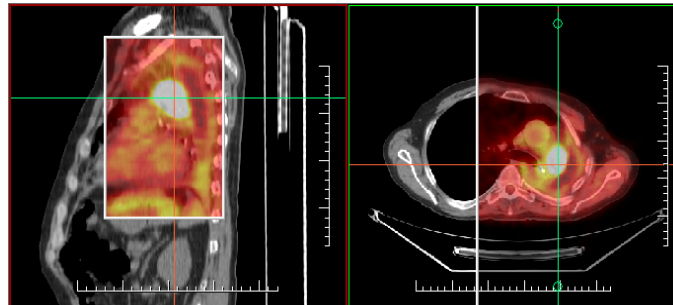

Figure 298 – Fusion images between MR and PET series
- Vertical** - the view is divided with a vertical line; the image from the fusion series is displayed on the right (see Figure 298, right).
- Rectangle** - the image from the overlaying series is displayed inside the rectangle (see Figure 298, left).